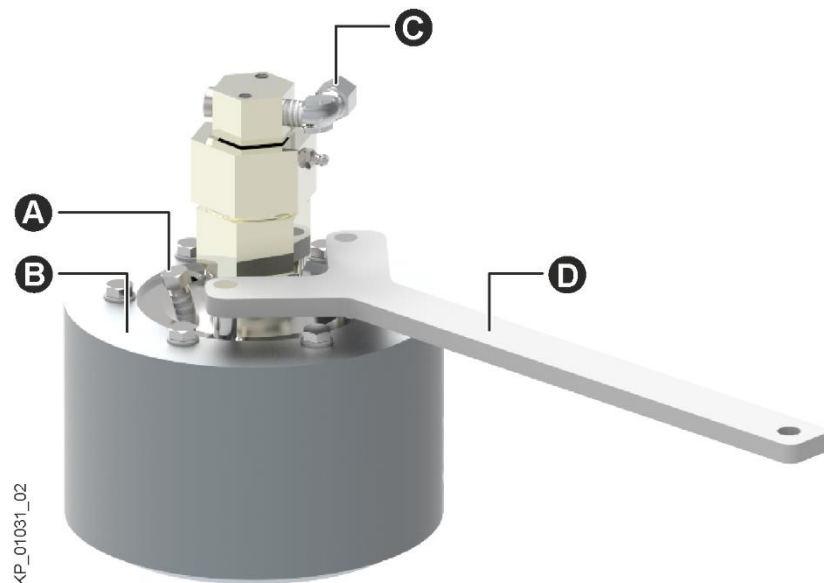

Fig. 47: Dismounting the hydraulic nut
- Clean the hydraulic nut (Fig. 47/B).
- Uncouple the plug-in coupling (Fig. 47/C).
- Loosen the securing screws (Fig. 47/A).
- Clean the threaded bores (Fig. 47/A).
- Loosen the hydraulic nut with the provided open-end spanner (Fig. 47/D) and turn it up to the end of the main shaft thread.